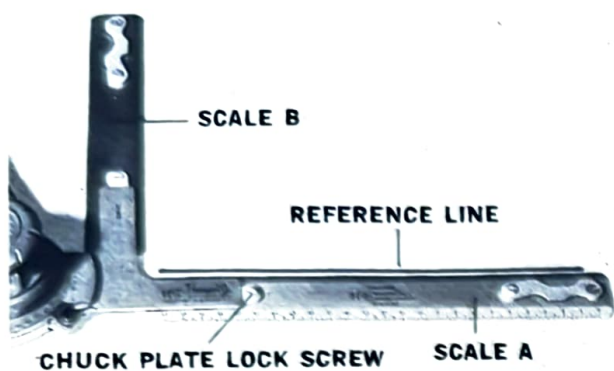

FIG. 4
3. Draw a reference line along the upper edge of scale A. See Fig. 4.